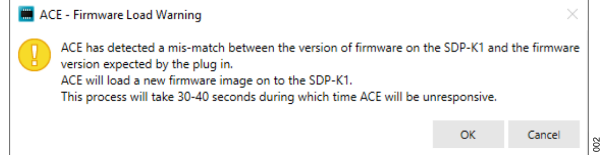
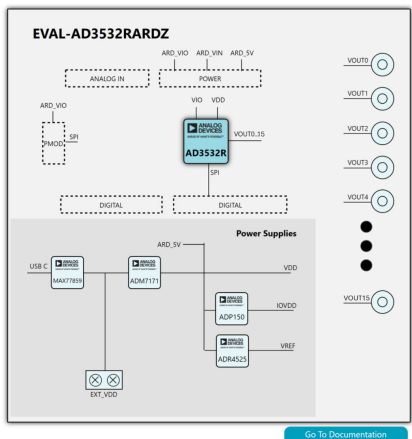

Figure 2. Firmware Loading Dialogue Box
Figure 1. Board View of the EVAL-AD3532RARDZ
3. Double-click the board plugin to open the board view seen in Figure 1. When the correct firmware in the SDP-K1 controller is missing or does not match, a dialog (as shown in Figure 2) appears and gives the option to flash the correct firmware. Press **OK** for initial setup. Press **Cancel** if the firmware has been loaded previously.